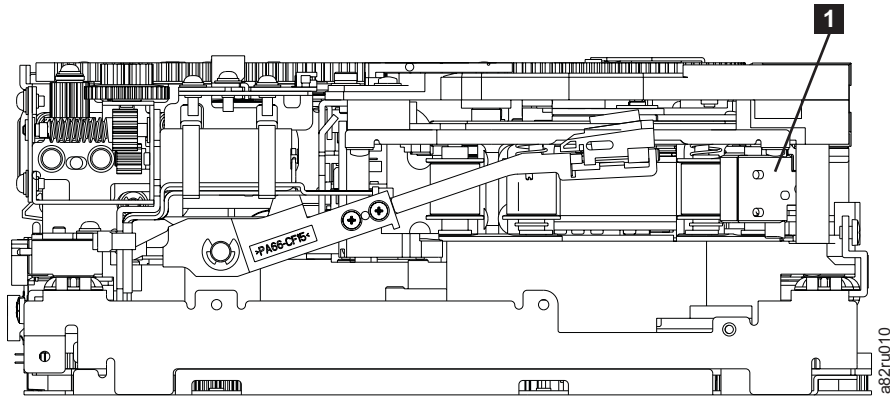

Figure 20. Leader Block Assembly (LBA)
- \_\_\_ Step 9. Rotate the threader motor worm gear ( **4** in Figure 19 on page 63) to turn the threader mechanism gear ( **6** in Figure 19 on page 63) counterclockwise. This moves the LBA out of the cartridge and past the read/write head. Stop this rotation when the LBA is near the tape guide roller nearest the rear of the drive shown as **1** Figure 20.